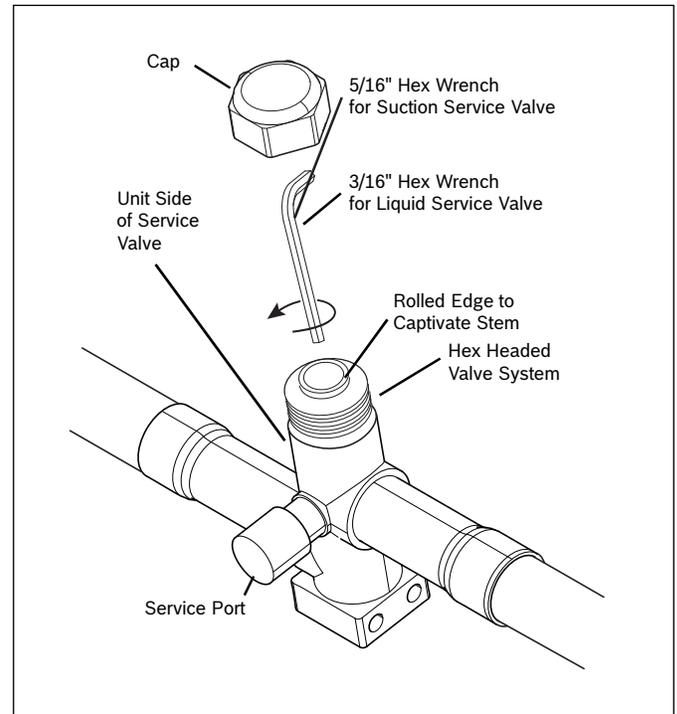

Figure 23
1. Remove Service Valve Cap (Fig. 23).
2. Fully insert hex wrench into the stem and back out counterclockwise until valve stem just touches the rolled edge (approximately five (5) turns).